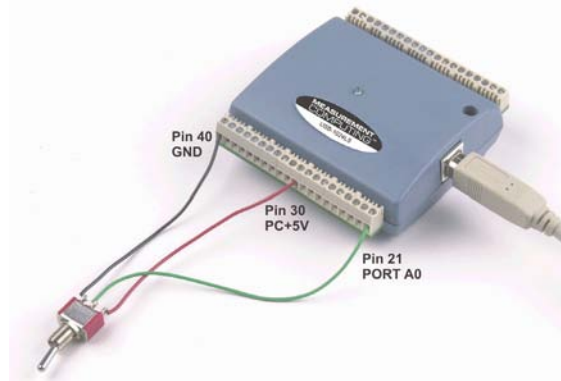
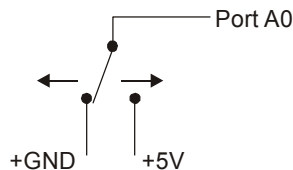

Figure 3-3. Digital connection of Port A0 detecting the state of a switch
Figure 3-4. Schematic showing switch detection by digital channel Port A0
When configured for input, you can use the USB-1024LS digital I/O terminals to detect the state of any TTL level input. Refer to the switch shown in Figure 3-3 and the schematic shown in Figure 3-4. If the switch is set to the +5 V input, Port A0 reads *TRUE* (1). If you move the switch to GND, Port A0 reads *FALSE*.